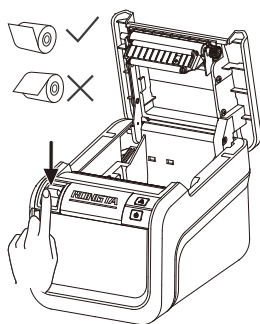

Figure 5
- 1) Press the cover lever to open the paper storage room cover (as shown in Figure 5 below)